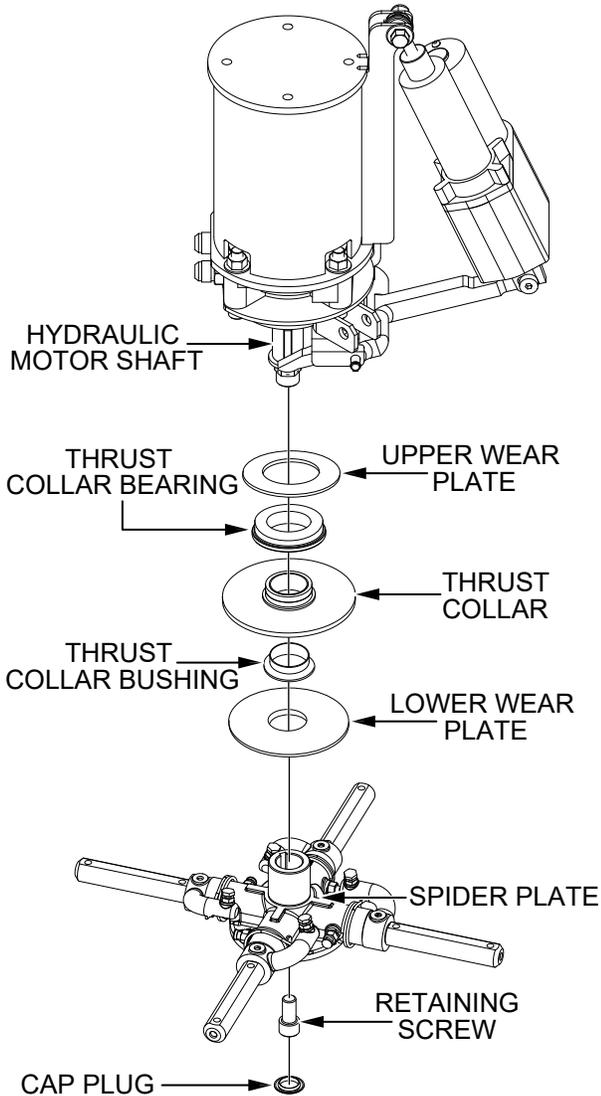

Figure 52. Spider Removal
1. Remove and set aside the **cap plug** and **retaining screw** (Figure 52) securing the spider assembly to the hydraulic motor shaft.